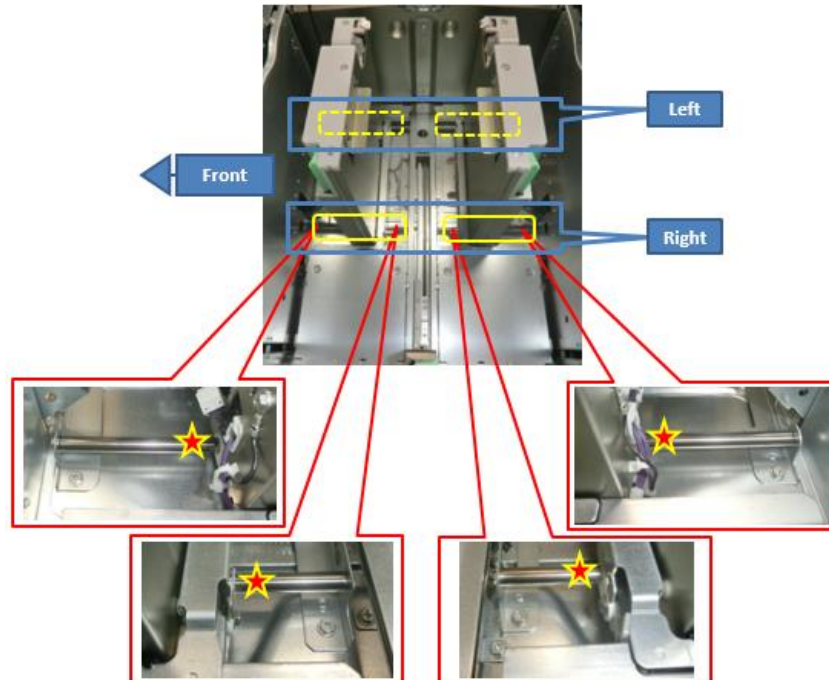

Fig. 2
2. Apply engine oil to the **right side** of the side fence shaft (positions are marked by red stars in **Fig. 2**).